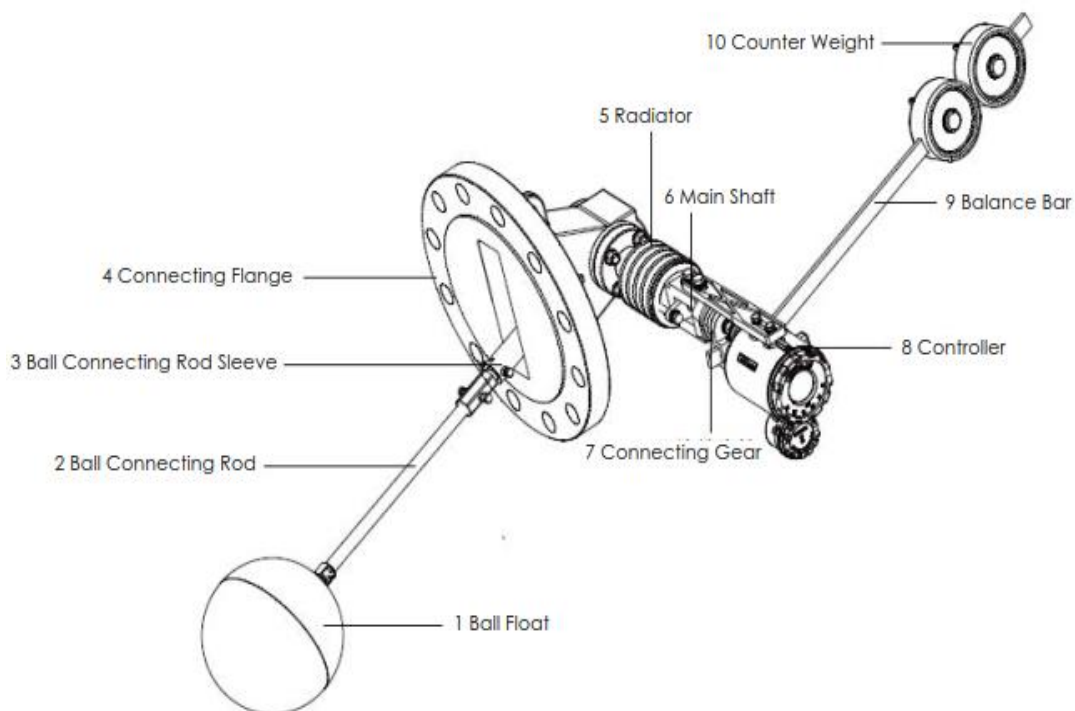

Figure 1 Small Rotation Angle Ball Float Level Transmitter
2.1 Product Basic Structure-Figure 1 small rotation angle ball float level transmitter;